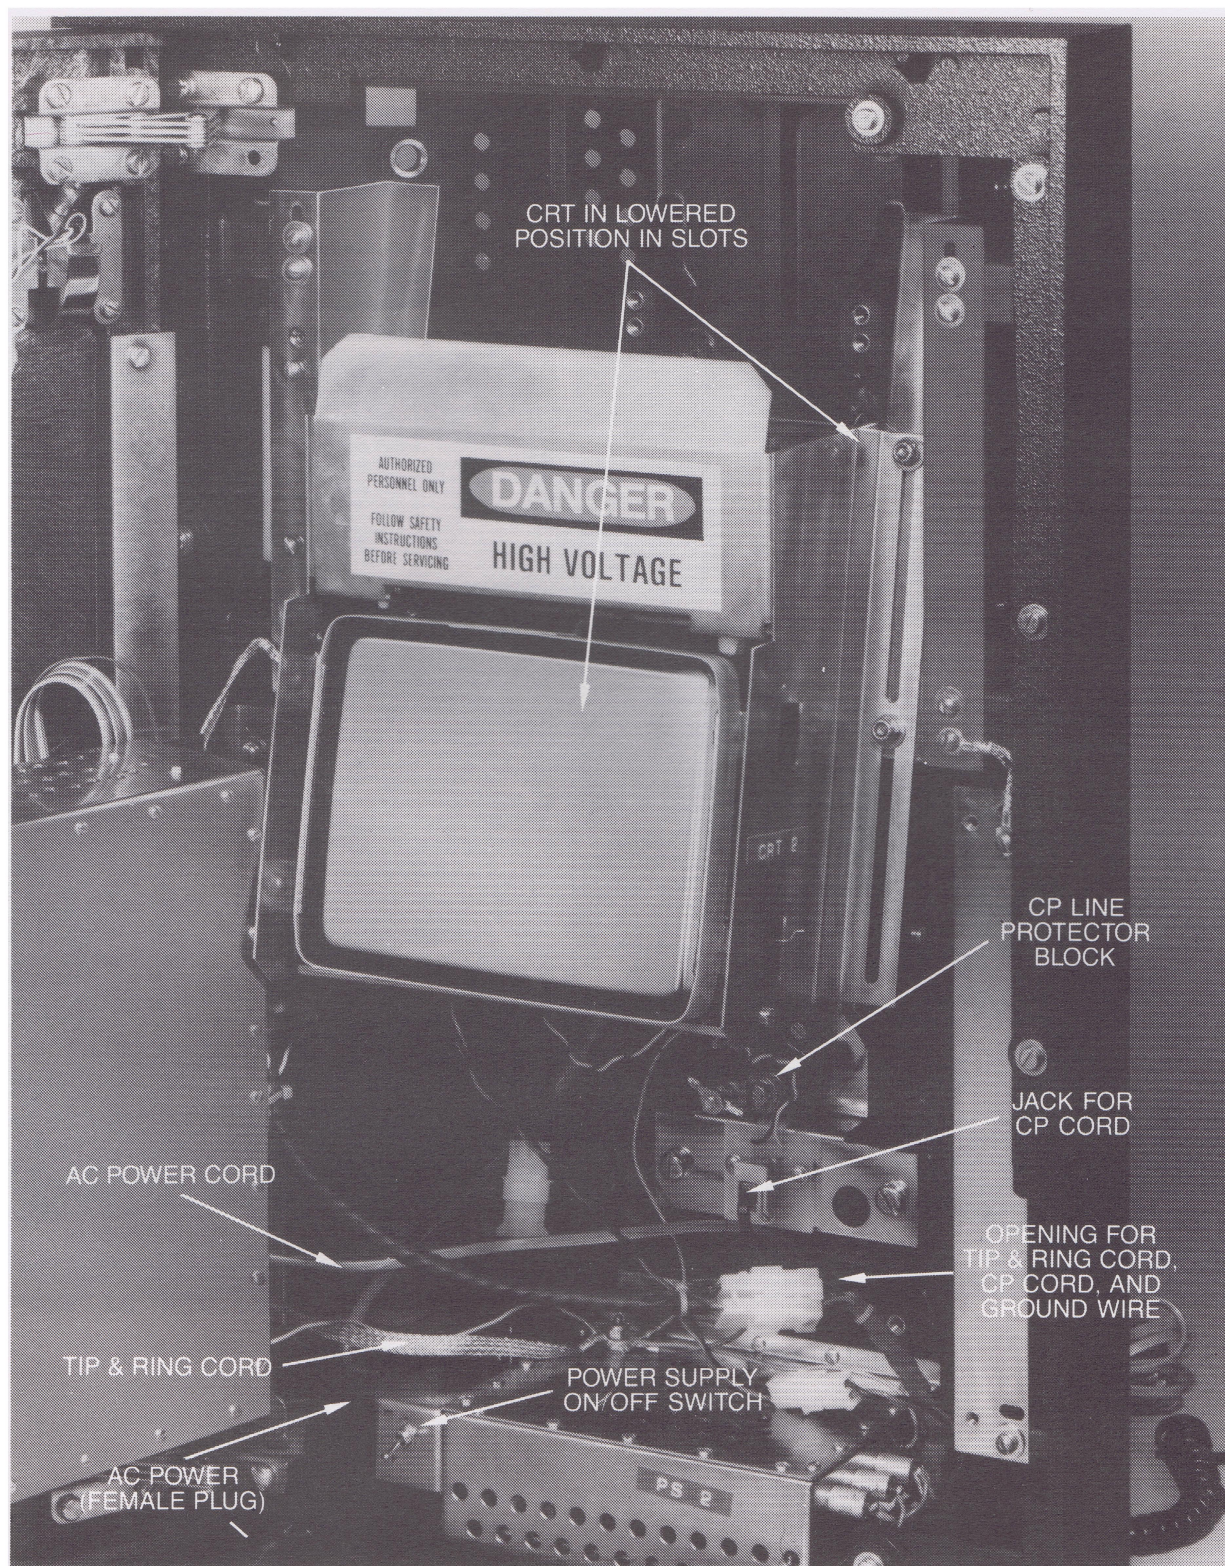

FIGURE 4: INSIDE VIEW WITH OUTSIDE DOOR AND PWB CHASSIS OPEN.
Prepare to loosen four No. 8 lock nuts on cathode ray tube (CRT) chassis. IMPORTANT! The CRT chassis must be held in place while lock nuts are loosened to prevent it from dropping abruptly in its mounting slots. Use an 11/32-inch nut driver to loosen lock nuts while holding chassis in place. Gently slide CRT chassis down. (See Figure 4.)
Next, plug the call processing (CP) cord into the modular Jack above the wire hole on the inside of the rear housing. (See Figure 4.)
Direct the tip and ring line cord along a path from the wire hole on the inside of the rear housing to the left behind the PWB chassis. (See Figures 4 and 6.)